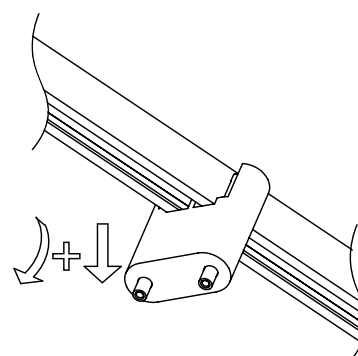

Fig. 17
2. To remove, tilt hanger then pull down from **Power Bar** (Fig. 17).